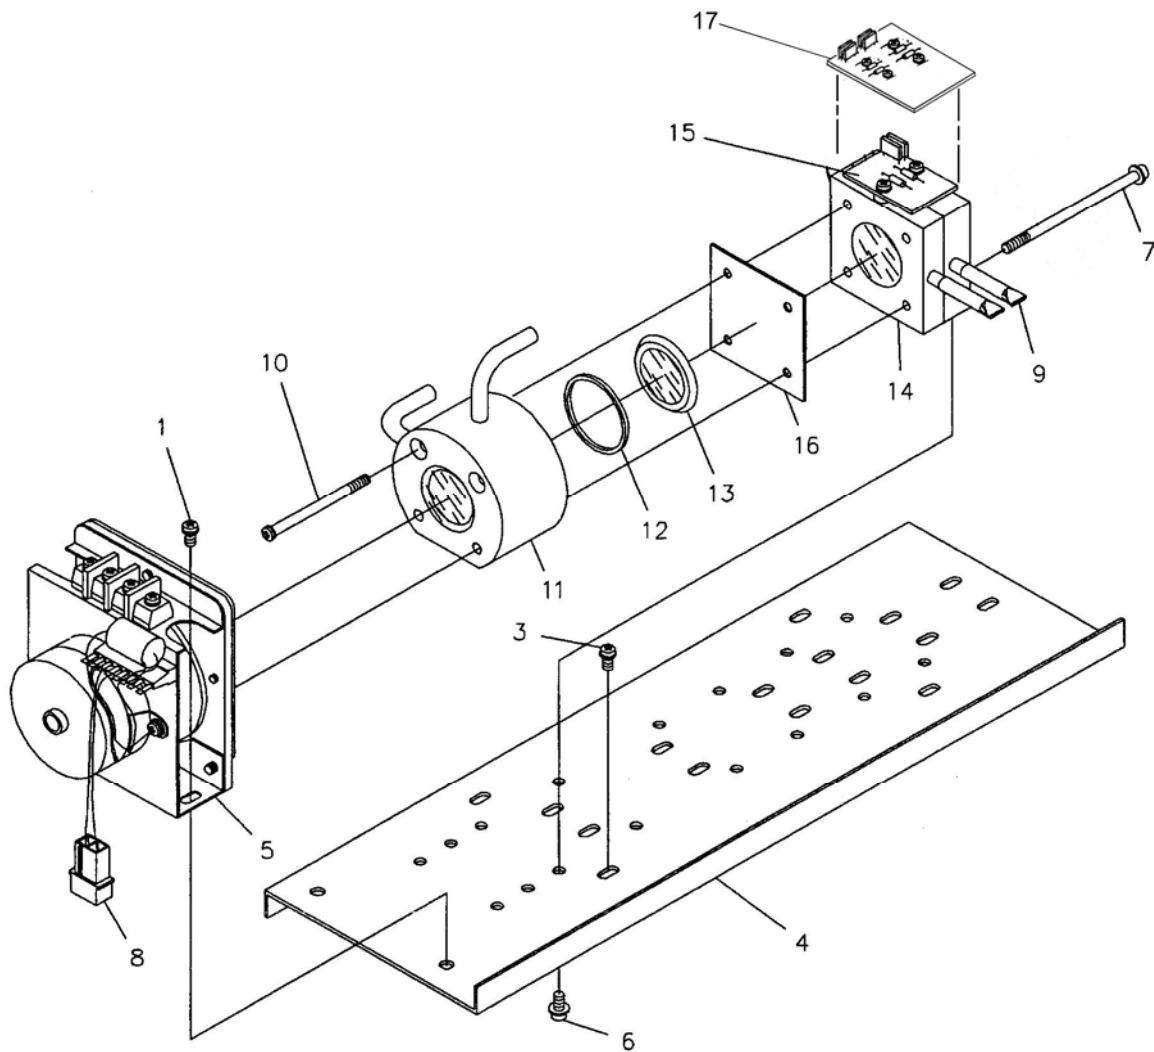
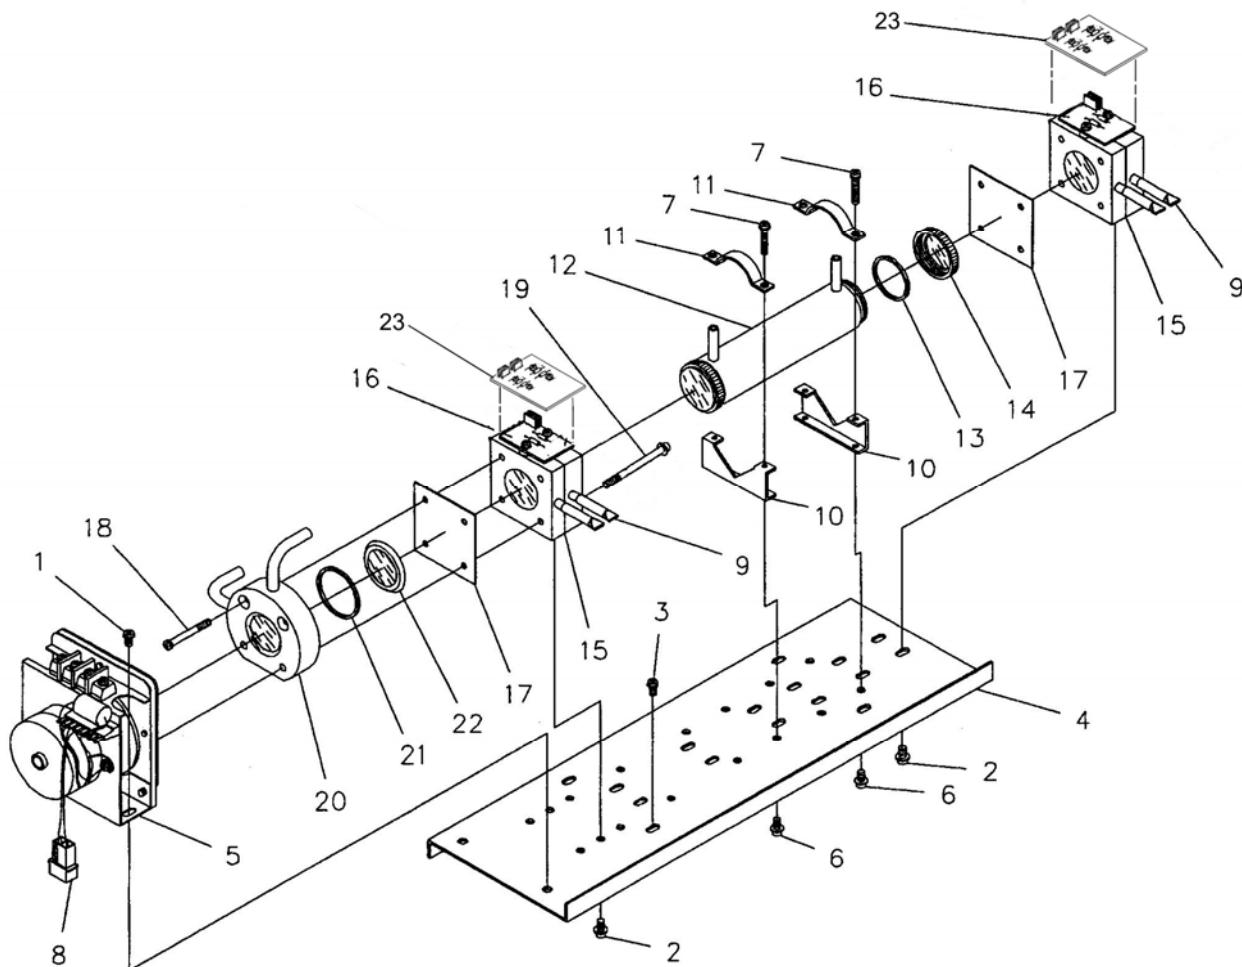

Figure 10-2 Optical Bench with Block Sample Cell
Figure 10-3 Optical Bench with Pipe and Block Type Sample Cells
| Block Cell (Cell length: 4 mm, 8 mm, 16 mm or 32 mm) | Figure 10-2 This figure illustrates the block cell. | 10.3.2 describes the disassembly cleaning and reassembly |
| Combination | Figure 10-3 This illustrates the combination assembly. | 10.3.3 describes the disassembly cleaning and reassembly |
(Figure 10-2)
- 6) Remove the two screws (No. 7 in Figure 10-2) attaching the detector to the infrared light source assembly and remove the detector from the optical bench. The cell is removed together with the detector as a unit.
- 7) While holding the detector in the palm of your hand, remove the two flat-head screws (No. 10 in figure 10-2) which fix the cell to the detector.
Note: The cell window (No. 10 in figure 10-2) is loose and is only retained by the clamping action between the detector and the block sample cell. Take care not to drop the window when separating the block cell from the detector.
(Figure 10-3)
- 5) Disconnect the wires from the two terminal screws of the infrared source unit and unplug the 2-pin connector (No. 8 in figure 10-3) from the chopper motor.
- 7) Remove the two screws (No. 1 in figure 10-3) that secure the infrared source unit to the base.
- 9) Remove the two screws (No. 19 in figure 10-3) that secure the detector to the infrared source then separate the detector and block cell from the infrared source unit.
- 10) While holding the detector in the palm of your hand, remove the two flat-head screws (No. 18 in figure 10-3) which fix the cell to the detector.
Note: the cell window (No. 10 in figure 10-3) is loose and is only retained by the clamping action between the detector and the block ample cell Take care not to drop the window when separating the block cell from the detector.
- 13) Remove the pipe cell retaining screws (No. 7 in figure 10-3)
- 14) Remove the retaining clamps (No. 11 in figure 10-3).
- 15) Lift the pipe cell out of its two supports (No. 10. in figure 10-3) and remove both windows (right-hand threaded) (No. 14 in figure 10-3).
- 16) At this time, inspect the O-Ring (No. 13 in Figure 10-3) for signs of deterioration. Replace if necessary.
- 18) The pipe cells contain a reflective metal foil liner (not shown in Figure 10-3) to enhance the light energy through put in the cell. Normally it is not necessary to remove the liner for cleaning; however, the liner should be removed if the cell is subjected to grossly excessive moisture. If necessary, clean both sides of the liner and the inside of the pipe cell. If the liner has been subjected to a corrosive substance, it should be replaced. In either case, ensure that the small gas holes in the liner are aligned with the gas fittings at both ends of the pipe cell before reassembling the windows.
(No. 15 in Figure 10-1 and Figure 10-3, No. 14 in Figure 10-2)
- 3) Replacement: After disconnecting wires from the two terminal screws and motor connector, remove the two screws that are used to attach the infrared light source unit to the optical bench. The light source assembly can be replaced, referring to Figure 10-1 or Figure 10-2.